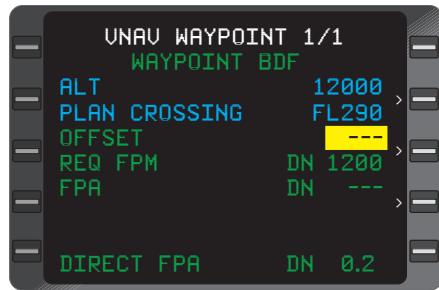

Figure 3-134
7. **ENT** Key - DEPRESS. Cursor moves to **OFFSET** field. (Figure 3-134)